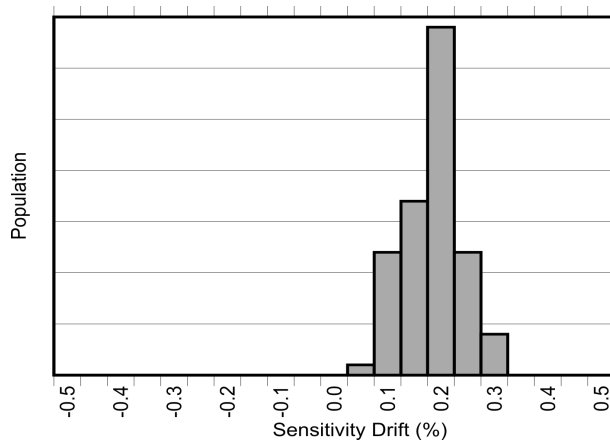
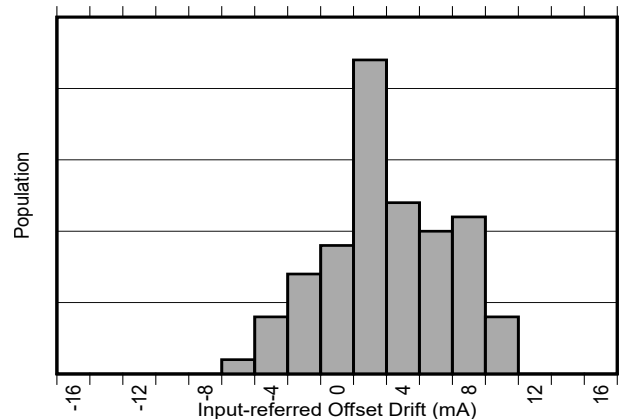

Figure 8-2. Sensitivity Error Drift After AEC-Q100 High Temperature Operating Life Stress Test
Figure 8-3. Input-Referred Offset Drift After AEC-Q100 High Temperature Operating Life Stress Test
In addition to large thermal drift, typical magnetic current sensors suffer an additional 2% to 3% drift in sensitivity due to aging over the lifetime of the device. The same proprietary compensation techniques used in the TMCS1133-Q1 to reduce temperature drift are also used to greatly reduce lifetime drift due to aging from stress and environmental conditions especially at high operating temperatures. As shown in the Electrical Characteristics, the TMCS1133-Q1 has industry leading lifetime sensitivity drift realized after Highly Accelerated Stress Tests (HAST) at 130°C and 85% relative humidity (RH) during standard three lot AEC-Q100 qualifications. Low sensitivity and offset drift within the bounds specified in the Electrical Characteristics are also observed after 1000 hour, 125°C high temperature operating life stress tests are performed as prescribed by AEC-Q100 qualifications. These tests mimic typical device lifetime operation, and show device performance variation due to aging is vastly improved compared with typical magnetic current sensors. Figure 8-2 and Figure 8-3 show the sensitivity and offset drift after a 1000 hour, 125°C high temperature operating life stress test as specified by AEC-Q100. Device operational performance varies over the lifetime of the device. This test mimics typical device lifetime operations and shows the likelihood of the device vastly improving performance compared to typical magnetic sensors.